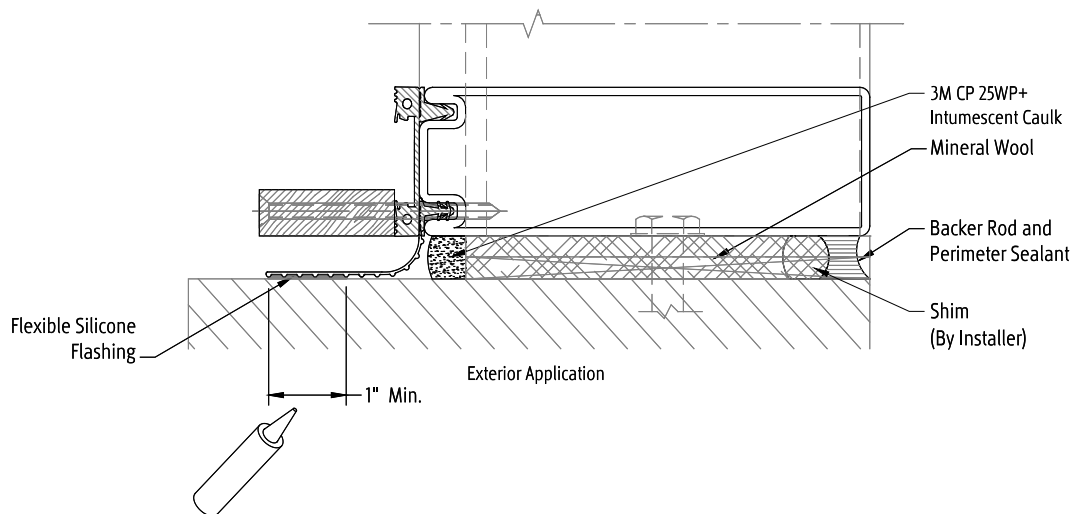

Figure 27 - Perimeter Spacer Detail
- 12.3 Vertical perimeter spacers are designed to run long, and horizontal spacers should have a 1/4" (6mm) gap at each corner intersection. (Figure 27),